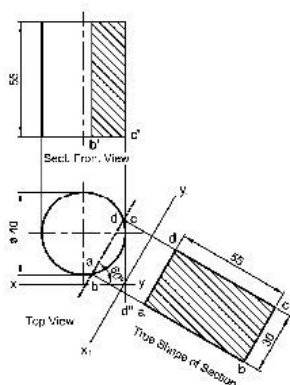

Fig. 5.110
- (1) This problem is solved by following way. Draw F.V., T.V. and L.H.S.V.
- (2) Locate section plane in F.V. passing through 40 mm above base  $40^\circ$  to H.P. (xy).
- (3) Complete T.V. will be in section as all the edges are cut.
- (4) Mark the key points in F.V. 1, 2, 3 ... 12.
- (5) For sectional S.V. project key points to respective generators. Join them in order to get sectional S.V.
- (6) For true shape, the projectors are drawn to opposite side of section plane and by usual procedure, points of section from T.V. are transferred. Join them in order to get true shape.
**Solution :** (Refer Fig. 5.110).